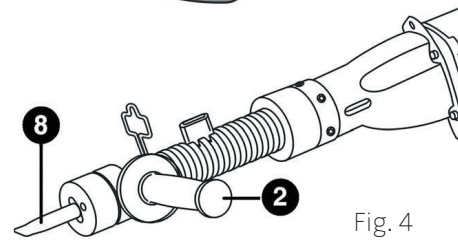

Fig. 4
The nozzle **❸** serves to apply the compound to the damage area. (figure 4)